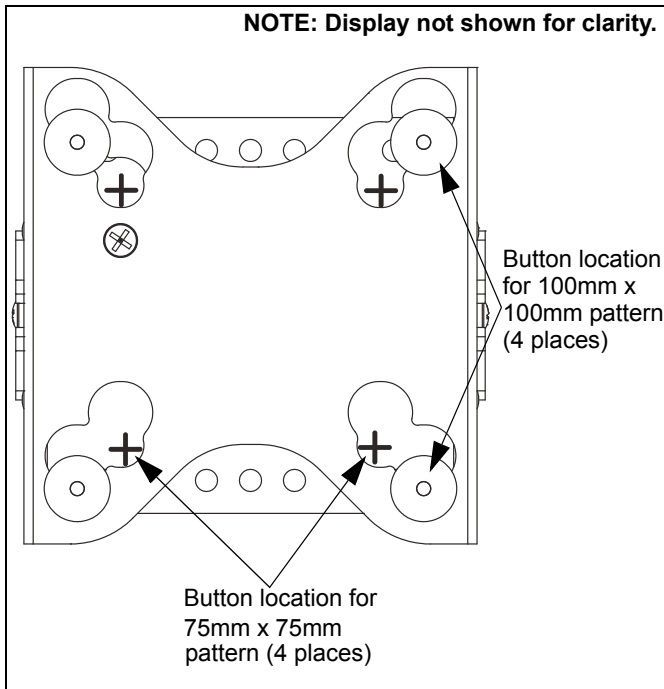

Figure 8
NOTE: Mounting buttons are shown in the 100mm x 100mm pattern. FTR (A) will also accommodate a 75mm x 75mm pattern. (See Figure 8)